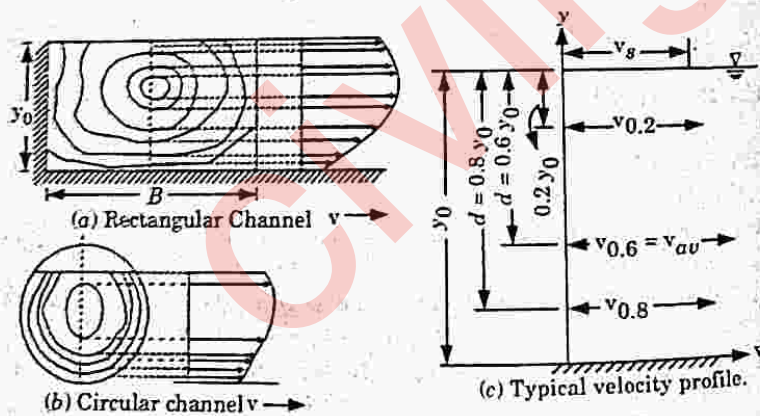

Fig. 1.4.1. Velocity distribution in open channels.
- The velocity distribution in a channel is dependent on the geometry of the channel. Fig. 1.4.1(a) and Fig. 1.4.1(b) show contours of equal velocity for a natural and rectangular channel respectively.
- A typical velocity profile at a section in a plane normal to the direction of flow is shown in Fig. 1.4.1(c).